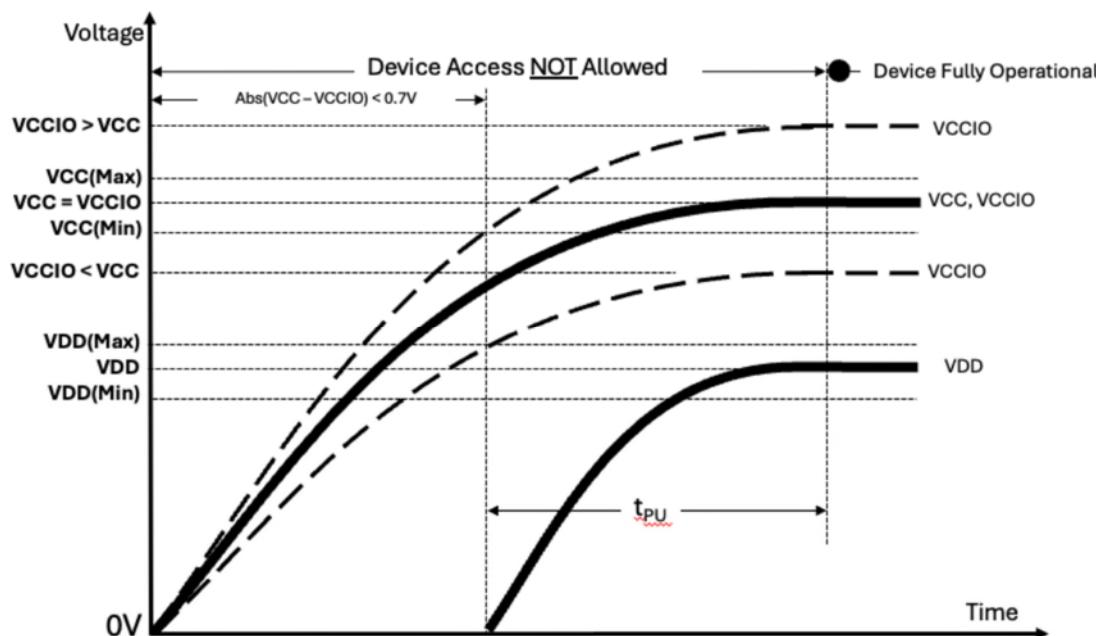

Figure 7: Power-Up Behavior
- The device must not be selected at power-up (a 10KΩ pull-up Resistor to VCCIO on CS# is recommended). Then a further delay of tPU (Figure 7) until VCC reaches VCC(minimum).